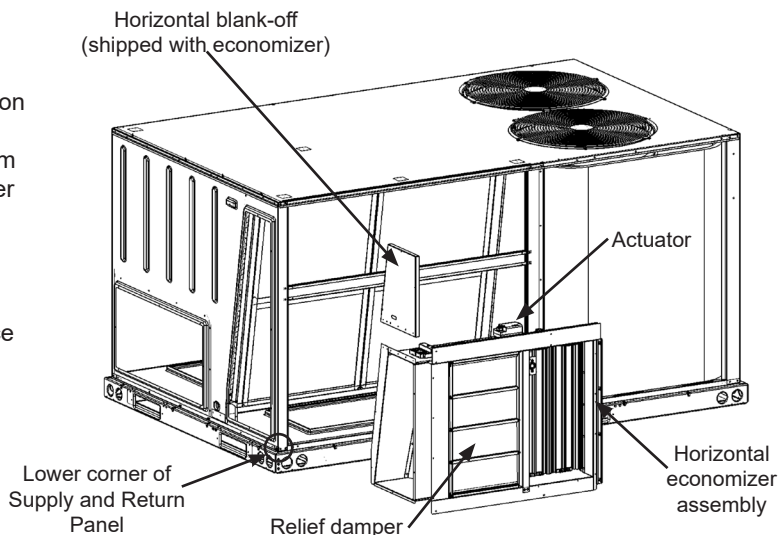

Figure 4 - Economizer Installation
4. Install damper assembly into unit where return chamber panel was. Economizer will sit inside of unit, and will rest on base rail. (See Fig. 4.) Remove screws from lower corner of supply and return panel and pull panel slightly away from base to ease installation. Reinstall screws after economizer is installed.
5. Screw left side flange on economizer to HVAC unit using provided (4) #10-14 x 3/4" screws with washer.
6. Align the holes in the base flange of the economizer into the holes in the base rail of the HVAC unit. Secure in place using (2) #10-16 x 5/8" screws.
7. When economizer is installed it will not cover the entire horizontal return air opening in the unit. Install provided blank-off above economizer covering the top part of the horizontal return air opening. Screw in place. (Fig. 4)